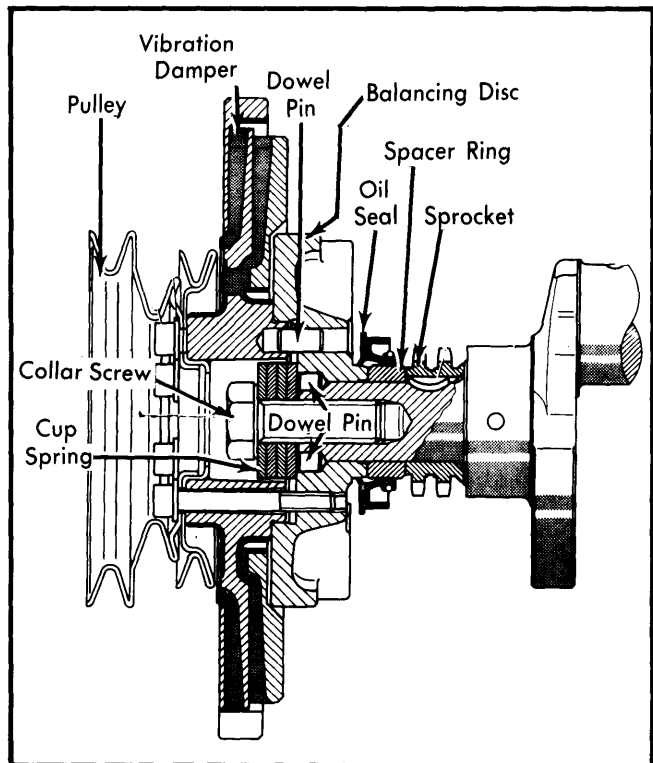

Fig. 7 Cut-Away View of Vibration Damper
① — Journal diameters vary, with steps from smaller to larger going from front to rear. Later or exchange camshafts and housings may have only 10 bearing points. End play is .002-.005" (.050-.128 mm). See Fig. 7.